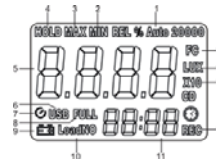

Figure 2
2. Display symbols (Figure 2, Table 2)